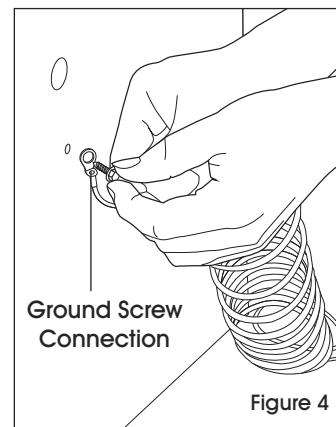

Figure 4
2. Use a 5/16" (8 mm) wrench or nut driver to loosen screw. (See Figure 4)